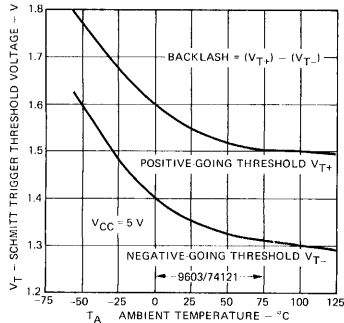

Fig. 5
**GENERAL DESCRIPTION** — The μA9614 is a TTL compatible Dual Differential Line Driver. It is designed to drive transmission lines either differentially or single-ended, back-matched or terminated. The outputs are similar to TTL, with the active pull-up and the pull-down split and brought out to adjacent pins. This allows multiplex operation (Wired-OR) at the driving site in either the single-ended mode via the uncommitted collector, or in the differential mode by use of the active pull-ups on one side and the uncommitted collectors on the other (See Fig. 5). The active pull-up is short circuit protected and offers a low output impedance to allow back-matching. The two pairs of outputs are complementary providing "NAND" and "AND" functions of the inputs, adding greater flexibility. The input and output levels are TTL compatible with clamp diodes provided at both input and output to handle line transients.